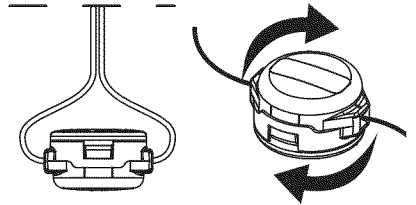

Fig. 13
2. Using 10.5 ft. (3.2 m) of 0.095 in. (2.41 mm) replacement line push an end of the line through one of the eyelets until it protrudes through the opposite side. Continue pushing or pulling the line until the line is evenly distributed, so approximately 5 ft. (1.5 m) is visible from both sides of the cutting head. (Fig. 13)